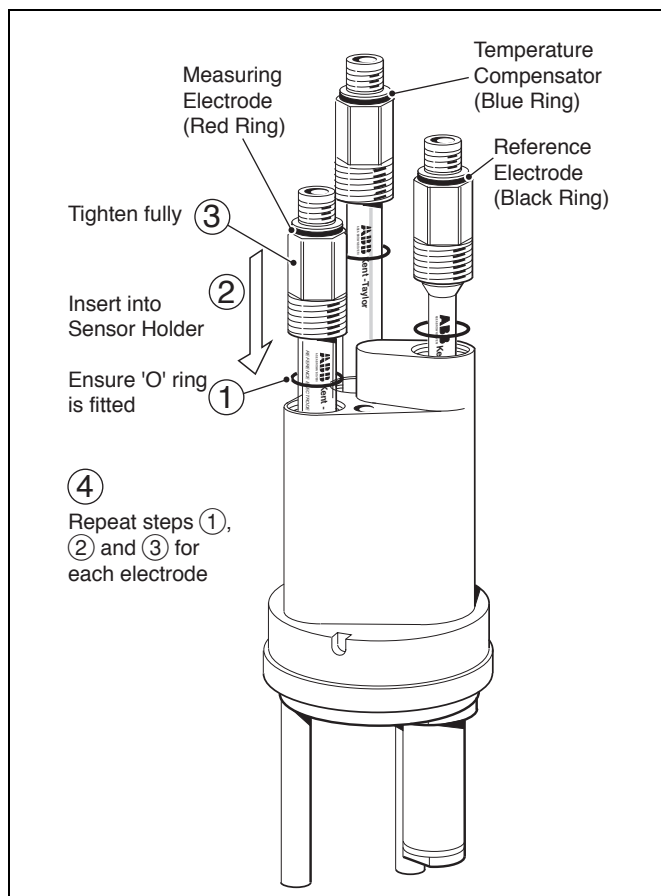

Fig. 3.9 Fitting the Electrodes into the Sensor Holder
5. Fit the reference electrode **IMMEDIATELY** ensuring that the 'O' ring is fitted over the electrode - see Fig. 3.9.
2. Fit the electrodes as shown in Fig. 3.9.